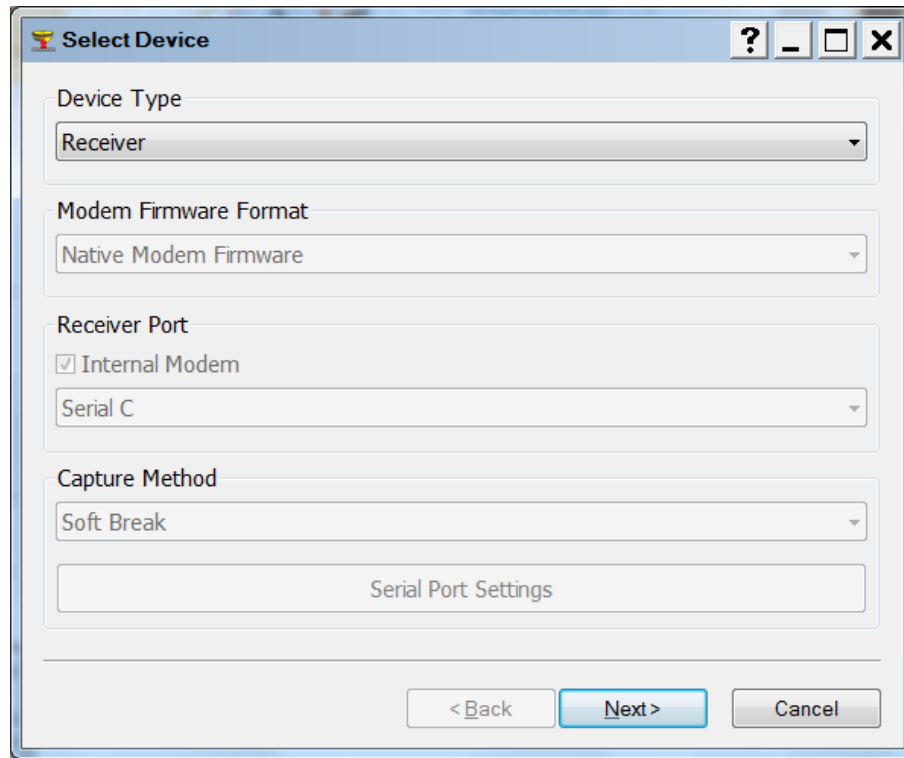

Figure 60: TRU – Firmware Loading
- Click the **Firmware Loading** icon. The **Select Device** screen appears (Figure 60).